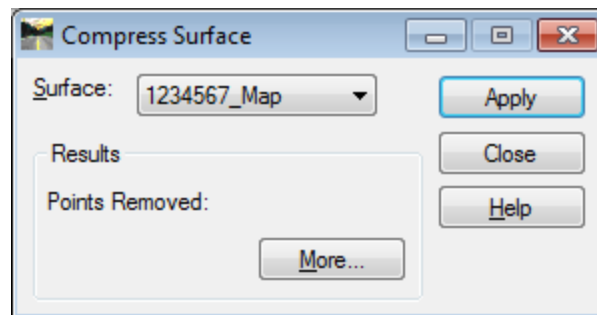

Figure L7-2 Compress Surface
8.	<p>The “Completed” Surface will now be compressed (deleted data will be removed from memory) which will reduce the size of the DTM file.</p> <p>Select Surface ► Utilities ► Compress Surface and the Compress Surface dialog box will open.</p> <ul style="list-style-type: none"> • In the Surface: Pulldown – select 1234567_Map <p>Leave all other entries as default.</p> <p>The inputs should now correspond to the screen capture depicted in Figure L7-2 (as shown below). Verify to ensure that your input matches the screen capture.</p> <p>Opens the Compress Surface dialog box.</p>